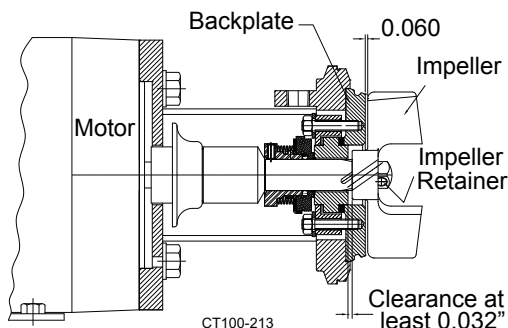

Figure 32 - Installing backplate and impeller
- Assemble the back-plate, insert the impeller-retainer on the stub shaft, locating it in the center and install the impeller, tighten against the stub shaft and turn it until the impeller-retainer falls and secure the impeller. (See Figure 32.)
- Before installing the casing, visually inspect the impeller hub and seal face to ensure that there is clearance between them. If no clearance is visible, disassemble the pump and move the stub shaft forward, to provide at least 0.032" (0.81 mm) clearance between the impeller hub and the seal seat face. (See Figure 32.)